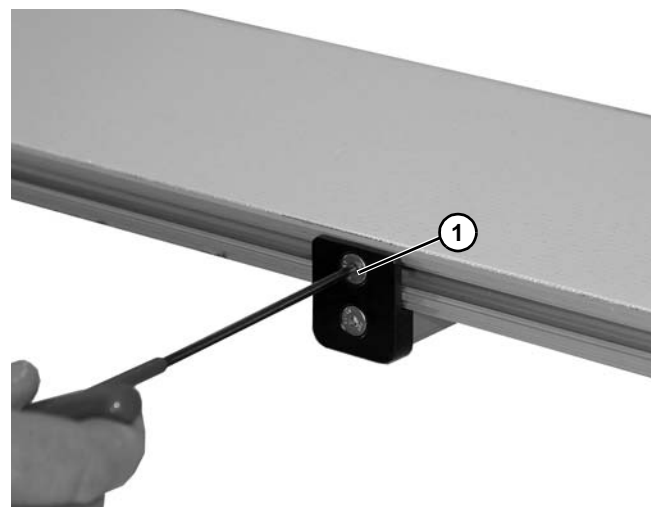

Figure 12
5. Install and tighten screws (Figure 12, item 1) to 15 in-lb (1.7 Nm).